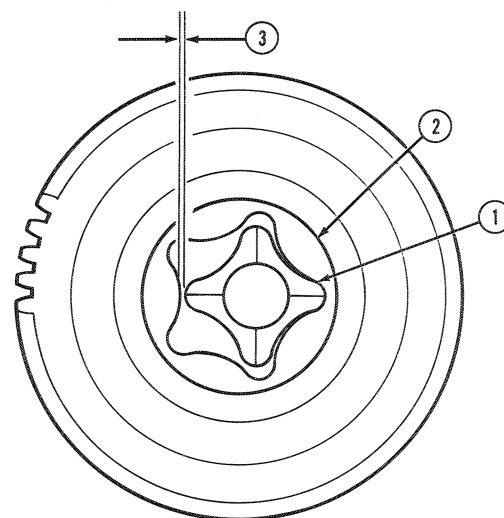

Figure 42
- Measure the rotor-to-vane clearance as shown, Figure 42, and replace defective components as required. See "Specifications," Chapter 3.